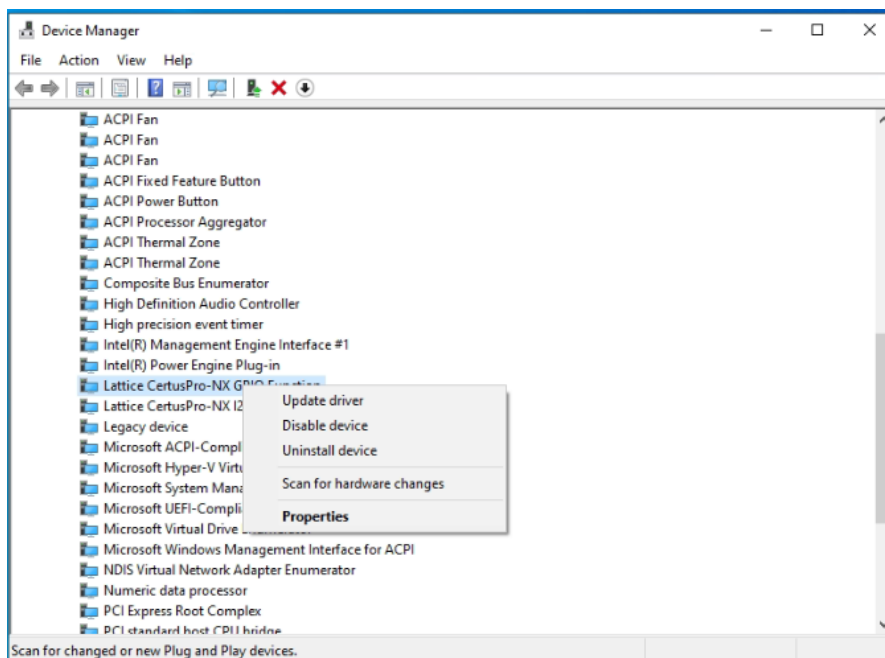

Figure 5.58. Select Uninstall Device for the Device User To Uninstall
2. Right-click on the device driver and select Uninstall device as shown in Figure 5.58.